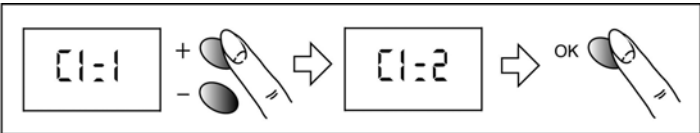

Fig.10
- After transmitting a signal to each heater in all necessary zones, 'C1=1' will be displayed (see Table 4 and Fig.10)